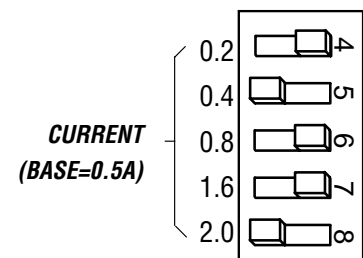

Figure 12 - CURRENT SETTING EXAMPLE
Refer to Figure 12. Locate the bank of seven switches labeled CURRENT on the front face of the driver. Six of the switches have a value of current printed next to them, such as 0.1 and 1.6. Each switch controls the amount of current, in amperes (A), that its label indicates. There is always a base current of 0.5 A. To add to that, slide the appropriate switches toward their labels